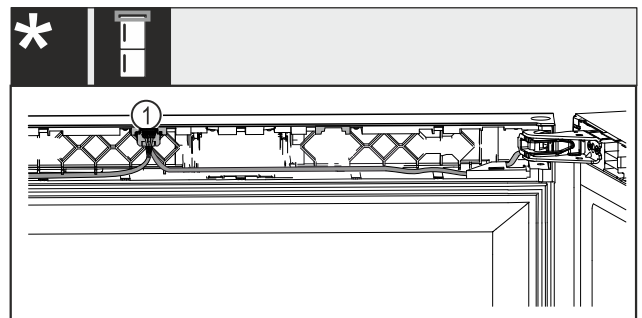

Fig. 64 Wine-freezer combinations\*
- ▶ Snap the plug Fig. 64 [1] into the guide.\*